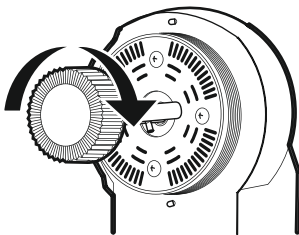

Fig. 5
1. Release the Fan Blade Lock Cap by turning it CLOCKWISE. (Fig 5)